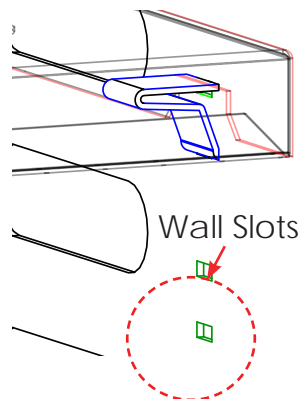

Fig. 18: Support Clip Fitted in Notch
4. Install the four shelf support clips into the desired location by inserting the top tab into the upper wall slot of that position (Fig. 17 - Fig. 18). Push up slightly on the inserted top tab and push the bottom half of the clip in until the bottom tab snaps into the lower slot.
6. Install the shelf with the notches on the bottom of the shelf aligned with the shelf supports (Fig. 18 - 19).